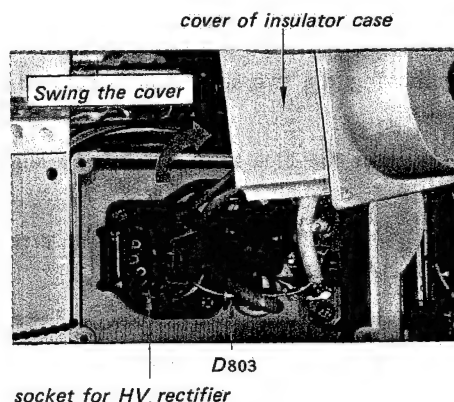

Fig. 2-31.
5. Swing the cover of insulator case as shown in Fig. 2-31. This permits access to the components of the convergence circuit and the socket of the rectifier tube.